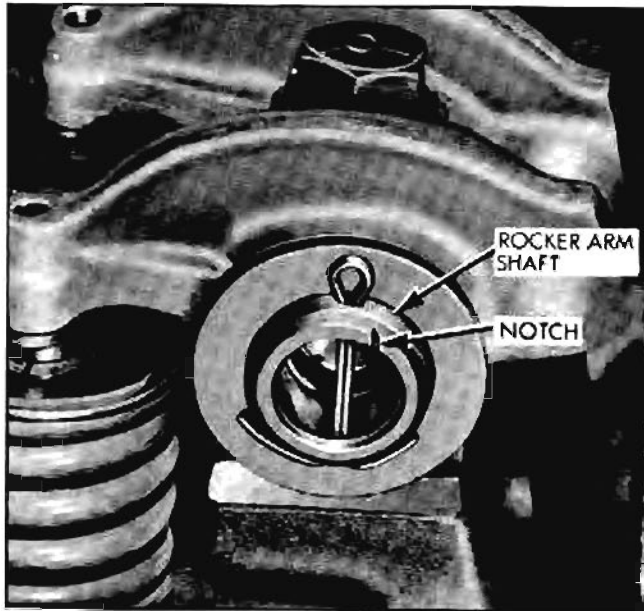

Fig. 6-82 Locating Notch
3. Install bolts and plain washers through brackets and shaft so the notch on one end of shaft is "UP" toward the shaft bracket bolt heads (Fig. 6-82).
2. Check notch on end of rocker arm shaft to be certain it is "up" (Fig. 6-82). Set rocker arm and shaft assembly in place and start one or two bolts into head.